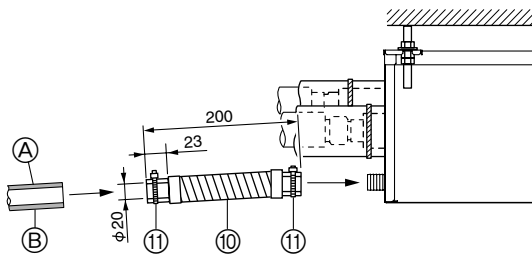

Fig. 8-1
- (1) Apply PVC adhesive (procure locally) to the drain connection on the branch box and push the attached drain hose ⑩ onto the connection as far as it will go. (Fig. 8-1)
- (2) Insert a hard PVC pipe (VP-16, procure locally) into the attached drain hose ⑩ and glue it together and fix it. (Fig. 8-1)
- (3) Fit a band ⑪ to the attached drain hose ⑩. (Fig. 8-1)